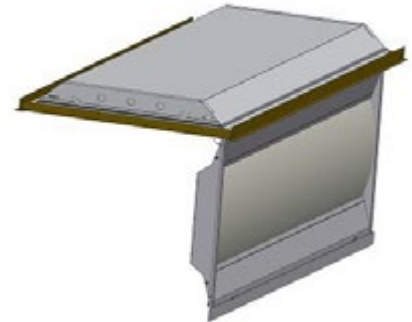

Fig.1.3
5. Place Light Engine Lens Assembly's hinge pins into the universal frame brackets (Fig.1.3).